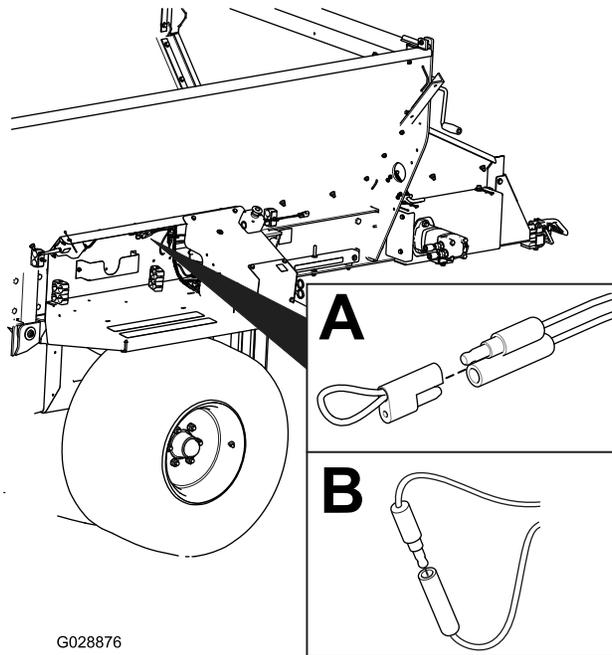

Figure 64
2. Pull the tethered cap off of the two diagnostic, shunt connectors (Figure 64, A).
3. Connect the diagnostic, shunt connectors together (Figure 64, B).